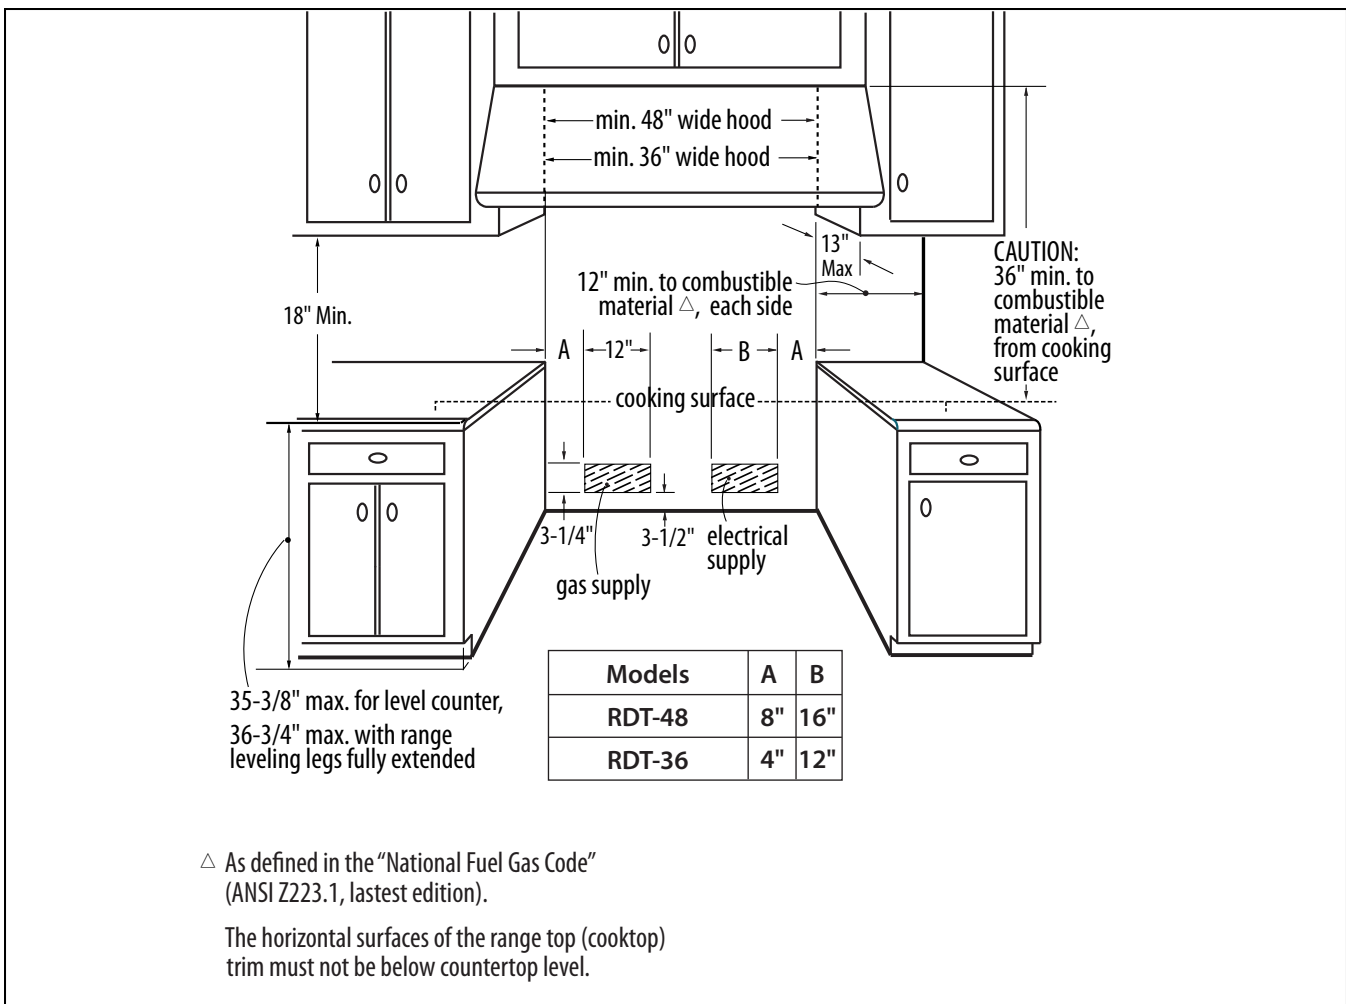
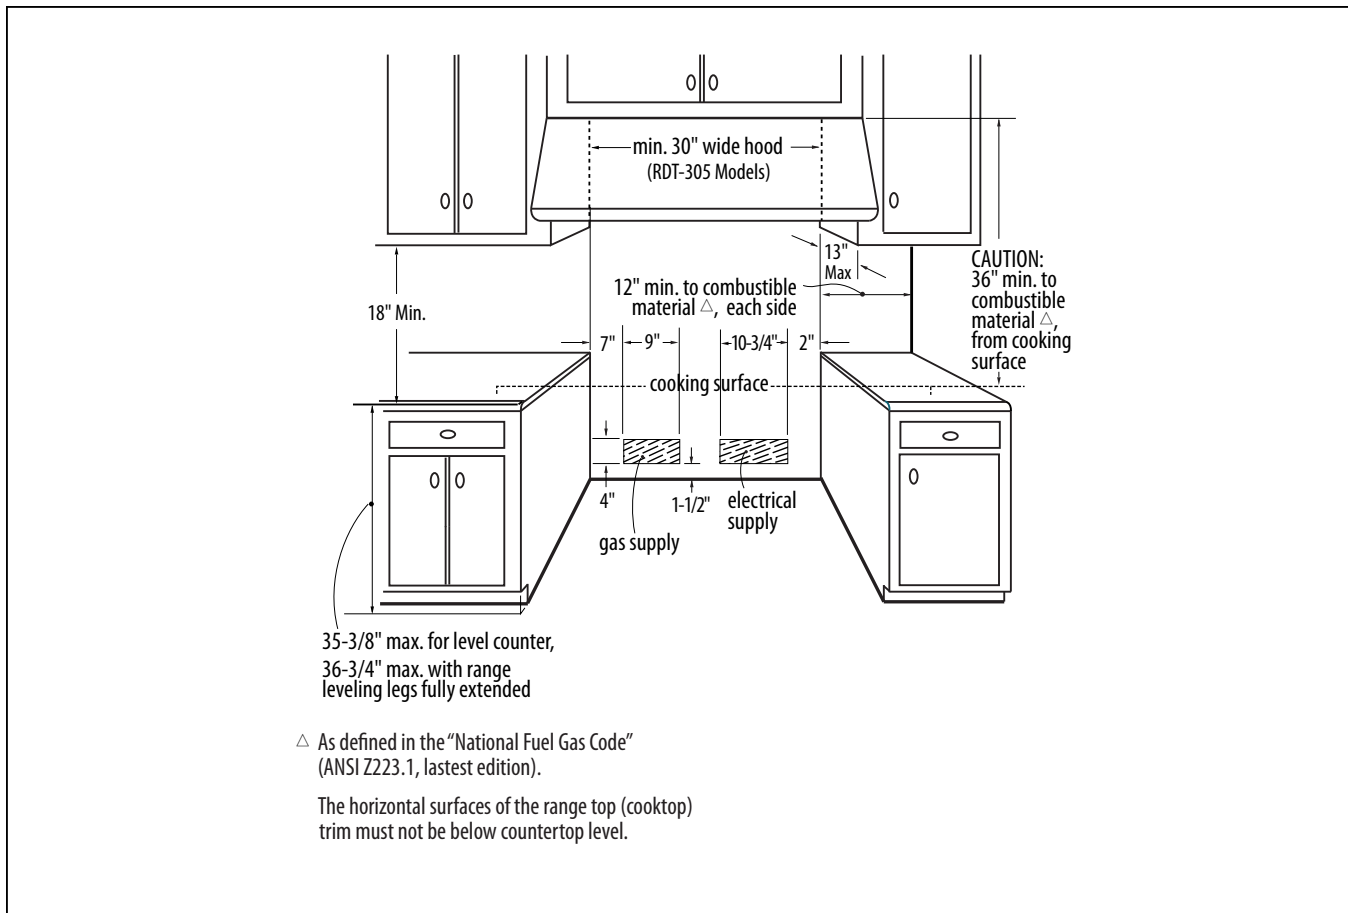
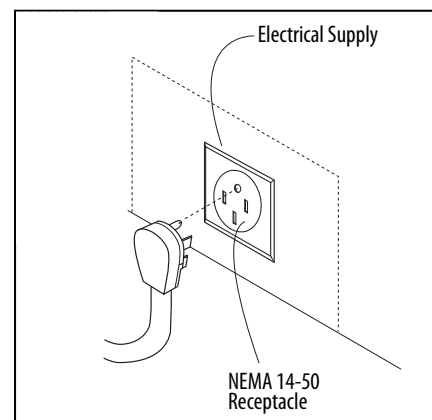

Fig. 10 RDT-36/48 Models Only
Fig. 11 RDT-305 Model Only
Fig. 15
1. The range is a free standing unit. If the unit is to be placed adjacent to cabinets, the clearances shown in fig. 10 (RDT-36 & 48) & fig. 11 (RDT-305) are required. The same clearances apply to island installations.
3. The gas and electrical supply should be within the zones shown figures 10 & 11.
Always disconnect electric supply cord from the wall outlet or service disconnect before servicing this appliance. Observe all governing codes and ordinances when grounding, in absence of which, observe National Electrical Code ANSI / NFPA No. 70. The electrical supply must be a 120/240 volt, 3 wire (plus ground) 60 Hz single phase, 50 AMP circuit. The power receptacle must be a NEMA 14-50 device to accept the four prong plug supplied with the unit (Fig. 15). The receptacle should be located within the area shown in fig. 10, page 14.
The electrical supply must be a 120/240 volt, 3 wire (plus ground), 60 Hz, 30 AMP circuit. The power receptacle must be a NEMA 14-50 device to accept the four prong plug supplied with the unit. The receptacle should be located within the area shown in fig. 11, page 15.